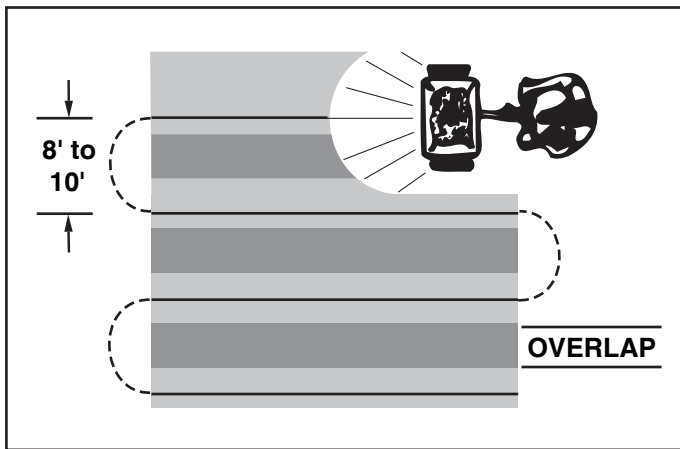

FIGURE 14
9. To insure uniform coverage, make each pass so that the broadcast pattern slightly overlaps the pattern from the previous pass as shown in figure 14. The approximate broadcast widths for different materials are shown in the *Application Diagram* figure 14.